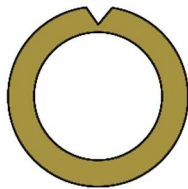

Figure 1
- **Step 1** Modify the TB-7 thrust block with a single "V" notch as shown in Fig. 1.